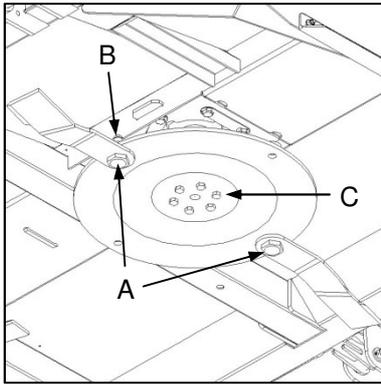
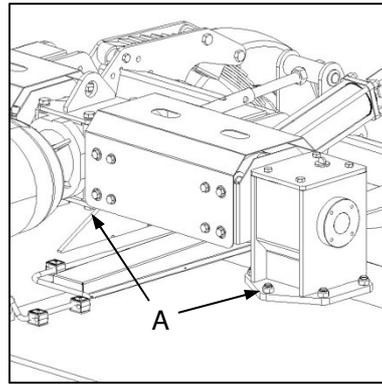
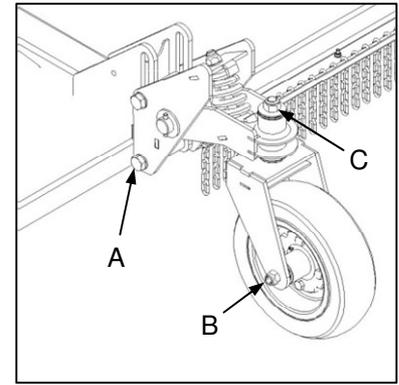

Fig. 1
Fig. 2
Fig. 3
- ✔ Check all fasteners for tightness. This includes special attention safety-critical fasteners such as blade bolts and nuts (Fig. 1-A/B), cutting gear mounting bolts (Fig. 1-C), gearbox mounting bolts (Fig. 2-A) and all wheel assembly fasteners and pivot points (Fig. 3-A/B/C).
- ✔ Verseker dat alle hegstukke vas is. Dit sluit in spesiale aandag aan veiligheidskritieke hegstukke soos lemboute en -moere (Fig. 1-A/B), snymeganisme-monteer-boute (Fig. 1-C), ratkasmonterboute (Fig. 2-A) en alle wielmonteringhegstukke en spilpunte (Fig. 3-A/B/C).